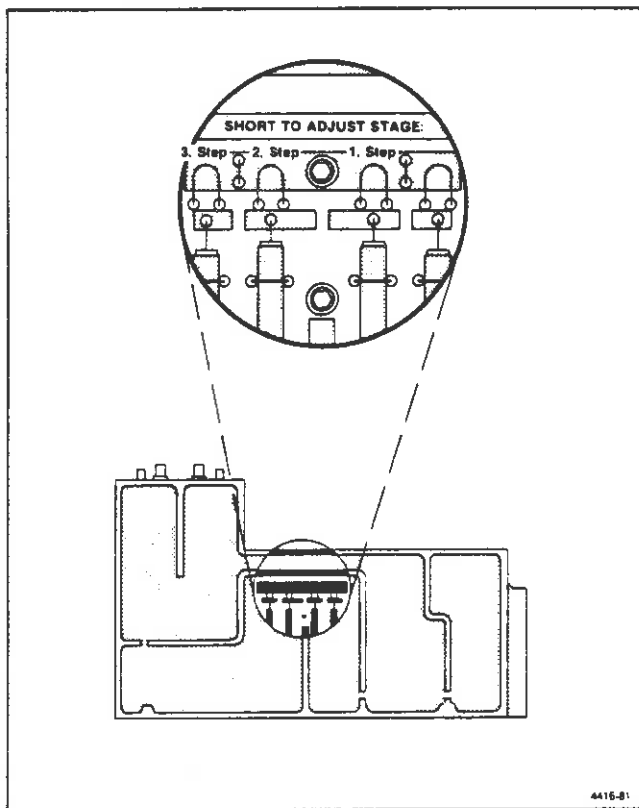

Figure 6-15. 829 MHz Converter filter tune tabs.
f. Adjust the 1/4 wavelength lines in the filter in sequence, starting with the resonator at the 829.1 MHz input (see Figure 6-15). Adjustment is made by shorting the adjacent resonator to ground with a low inductance conductor, such as a broad blade screwdriver, then bend the loop or tab of the respective stub with a non-metallic tuning tool to change the series capacitance of the resonator.